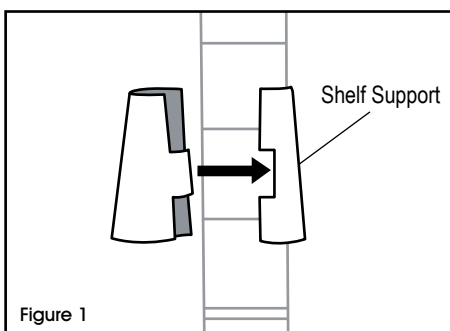

Figure 1
1. Start with the lowest shelf. Snap the interlocking pieces of a shelf support (wide end down) around the post at the lowest groove where shelf is to be located. Slide the support up or down until it snaps into the groove. Add a shelf support to the same place on the remaining posts. (See Figure 1)